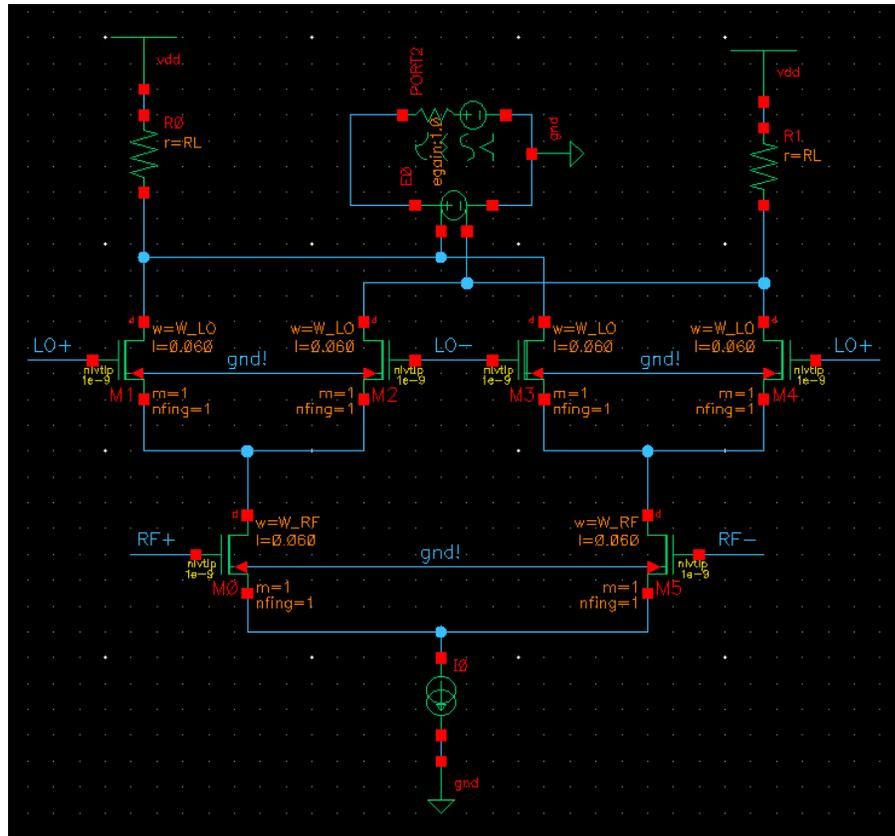

Fig. 1
- Draw the schematic according to Fig. 1. Use minimum length *n/vt/p* transistors. Set the widths to variables called 'W_LO' and 'W_RF'.